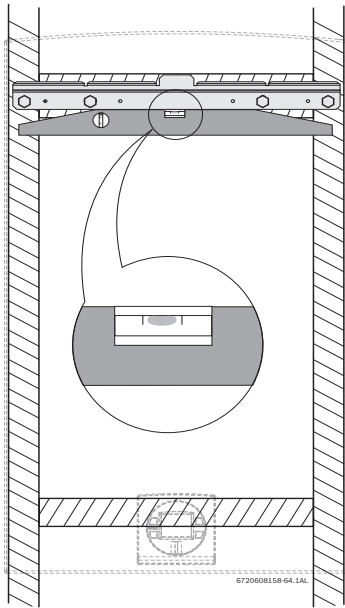

Fig. 25 Leveling the mounting bracket on the studs
- ▶ Secure the wall mounting bracket provided with the heater to the wall surface. The heater must be kept level on the wall surface (see Fig. 25).